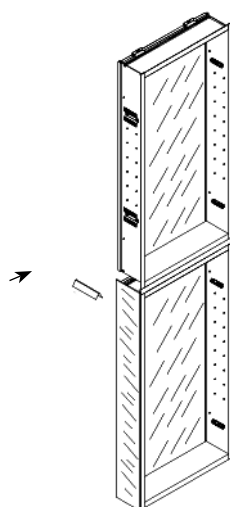
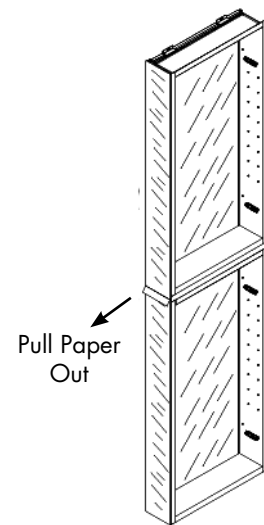

FIG 14
FIG 15
- 6e. Place piece of folded paper on top of lower side mirror. Peel tape off brackets and place side mirror even with front of cabinet flange, and flush with the **top** of the cabinet and paper at top of bottom cabinet side mirror. Remove paper from between side mirrors. Repeat for opposite side. (Fig 14)
16. Place piece of folded paper on top of lower side mirror (Fig 14). Peel tape off brackets and place side mirror even with front of cabinet flange, and flush with the **top** of the cabinet and paper at top of bottom cabinet side mirror. Remove paper from between side mirrors (Fig 15). Repeat for opposite side.